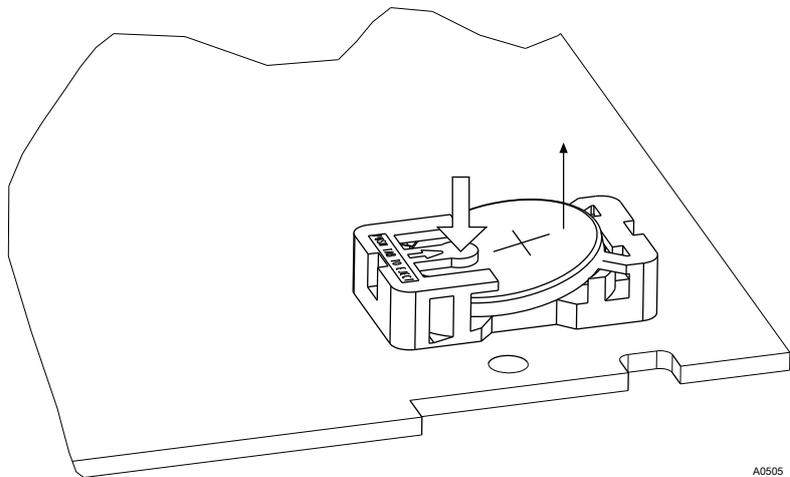

Fig. 22: Removing the battery
2. ➤ Press on the holder lug to release the battery from the holder, see Fig. 22